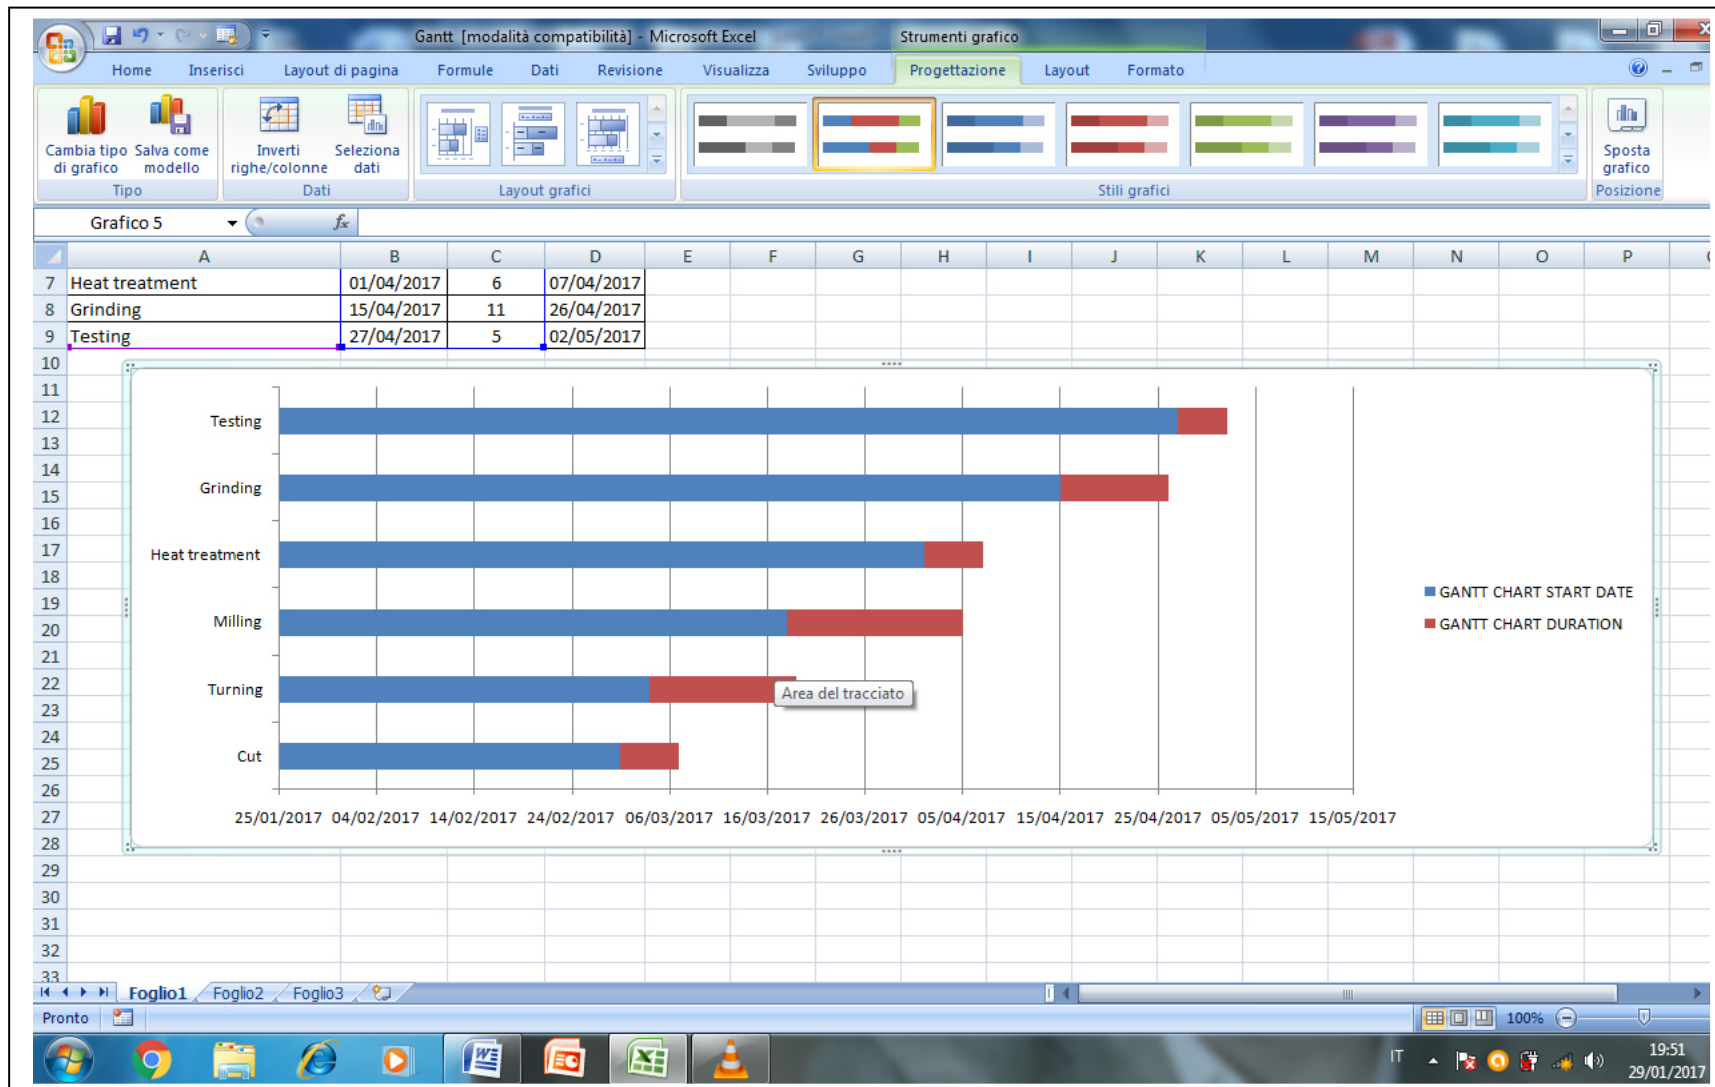

Fig.7- Expanded diagram
6) Expand the picture so that is easily readable (Fig. 7)